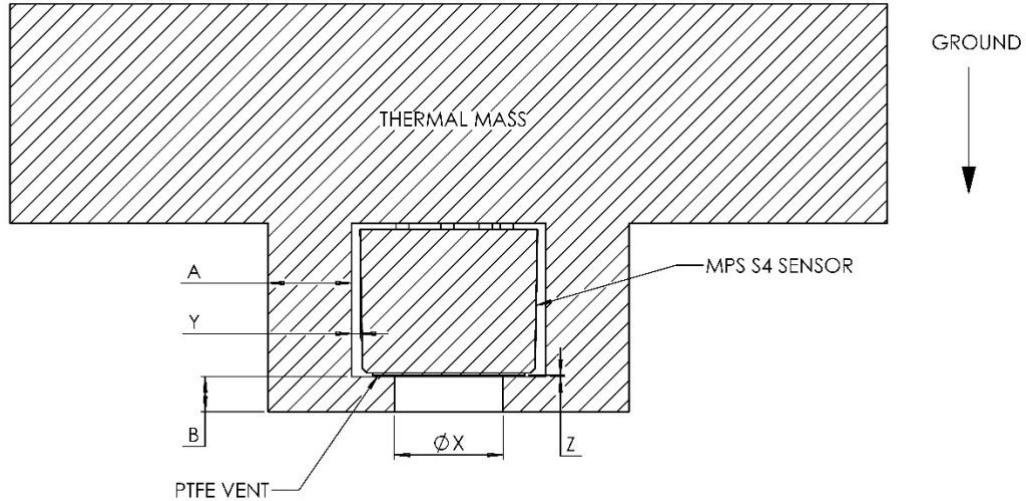

Figure 9: Reference enclosure design.
- The sensor should be installed so as to face downward inside a cylindrical enclosure with an air inlet facing the ground. The recommended general installation is shown in Figure 9. The inlet diameter, X, should be sized at approximately 14 mm, and the air gap, Z, should be less than 2 mm. Radial spacing, Y, between the sensor and the enclosure should be 1-3 mm. (Note the ~1° draft angle of the “Series 4” type MPS sensor package.) The wall thickness, A, should be 8-10 mm, and B should be approximately 4 mm.